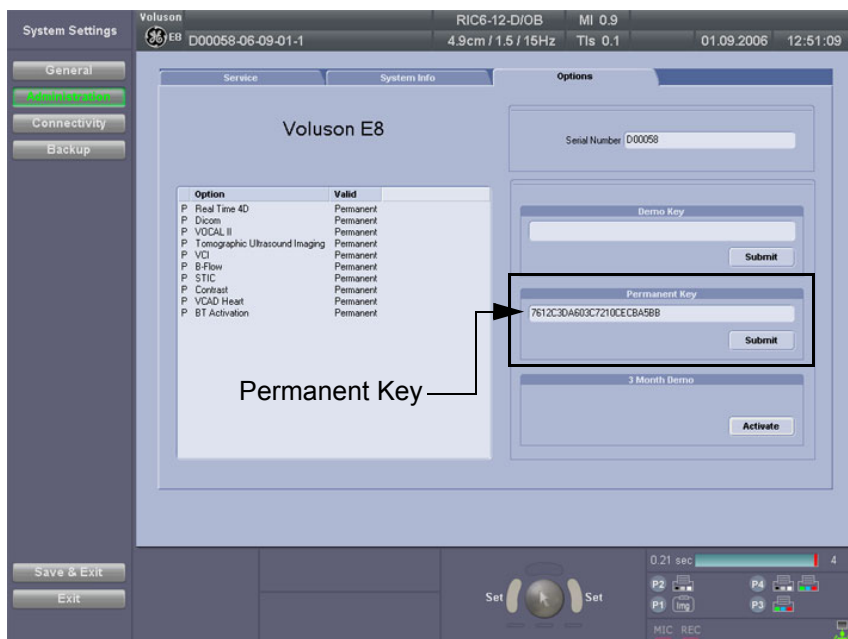
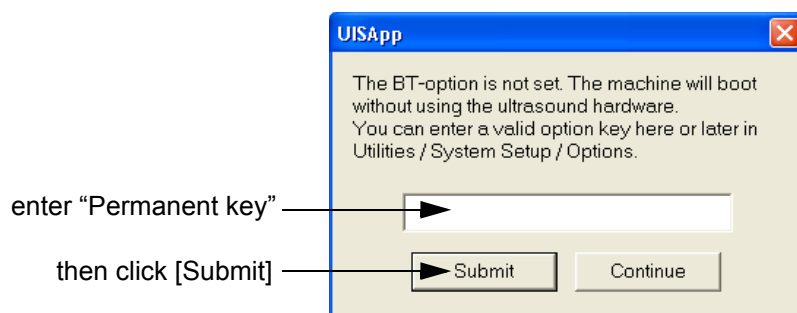

Figure 8-2 System Setup - Administration - OPTIONS page (BT06 systems)
Figure 8-13 Enter Permanent key
- check the current Application Software version (Figure 8-2) and the installed Options (Figure 8-2)
**NOTICE** Please verify that you have recorded the **Permanent key** (see: Figure 8-2 on page 8-5).
**NOTE:** If the BT warning dialog (Figure 8-13 below) appears, enter the Permanent key previously recorded (see: Figure 8-2: System Setup - Administration - OPTIONS page \(BT06 systems\) on page 8-5) and then click SUBMIT.
- 6.) Verify the correct settings of the **OPTIONS** page; see: Figure 8-2 on page 8-5.